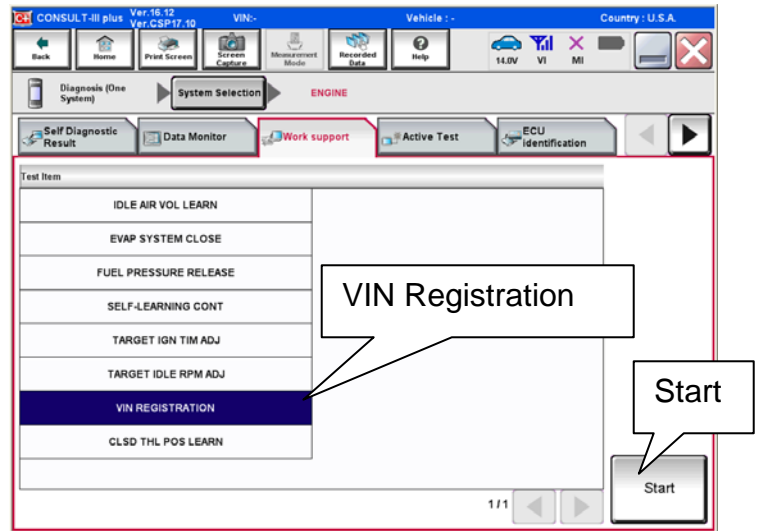

Figure 22a
1. Select Diagnosis (One System) > ENGINE > Work support > VIN Registration (see Figure 22a).